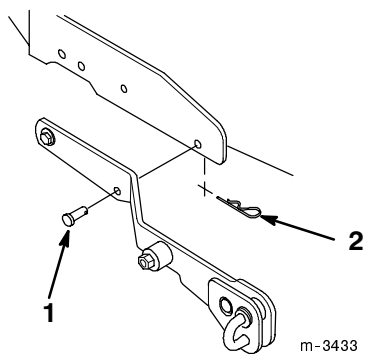

Figure 6
4. Install two 3/8 x 1 in. (25 mm) clevis pins into each side of the lift assembly in the positions shown in Figure 6. Secure them with two small hairpin cotters.